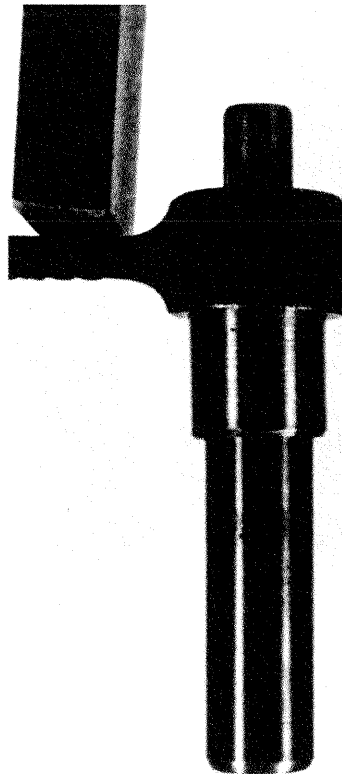

Figure 20
1. Press in new bushing using press or soft jaw vise. (Figure 20)
2. Drill (3) 1/8" holes for oil passage.